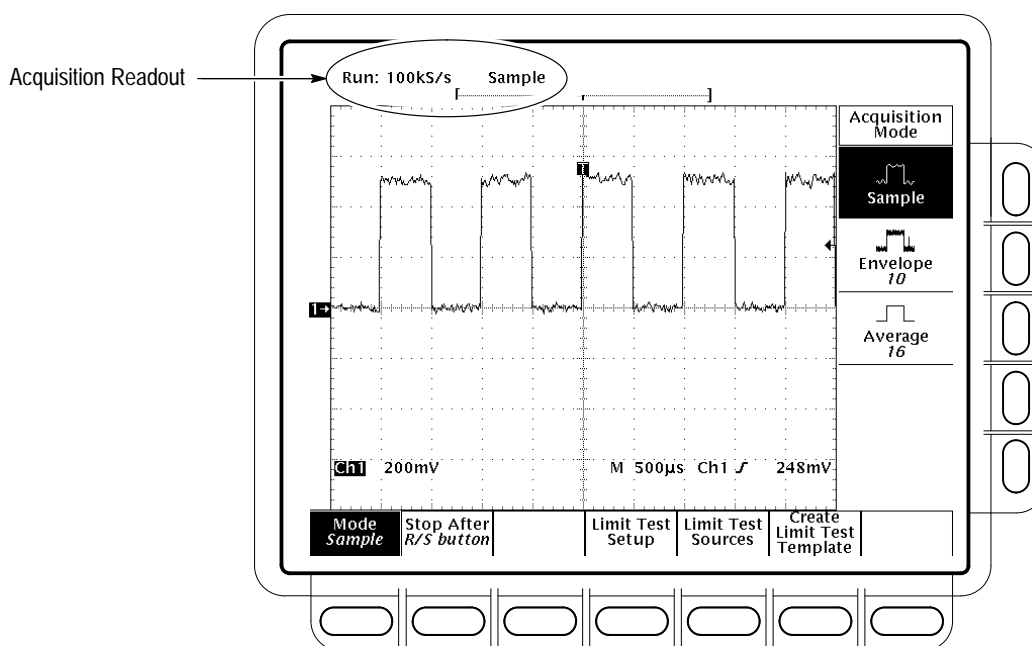

Figure 3–14: Acquisition Menu and Readout
To determine the acquisition sampling rate, the acquisition state (running or stopped), and the acquisition mode, check the acquisition readout at the top of the display. (See Figure 3–14.) The “running” state shows the sample rate and acquisition mode. The “stopped” state shows the number of acquisitions acquired since the last stop or major change.
1. Press **SHIFT ACQUIRE MENU** → **Mode** (main). (See Figure 3–14.)